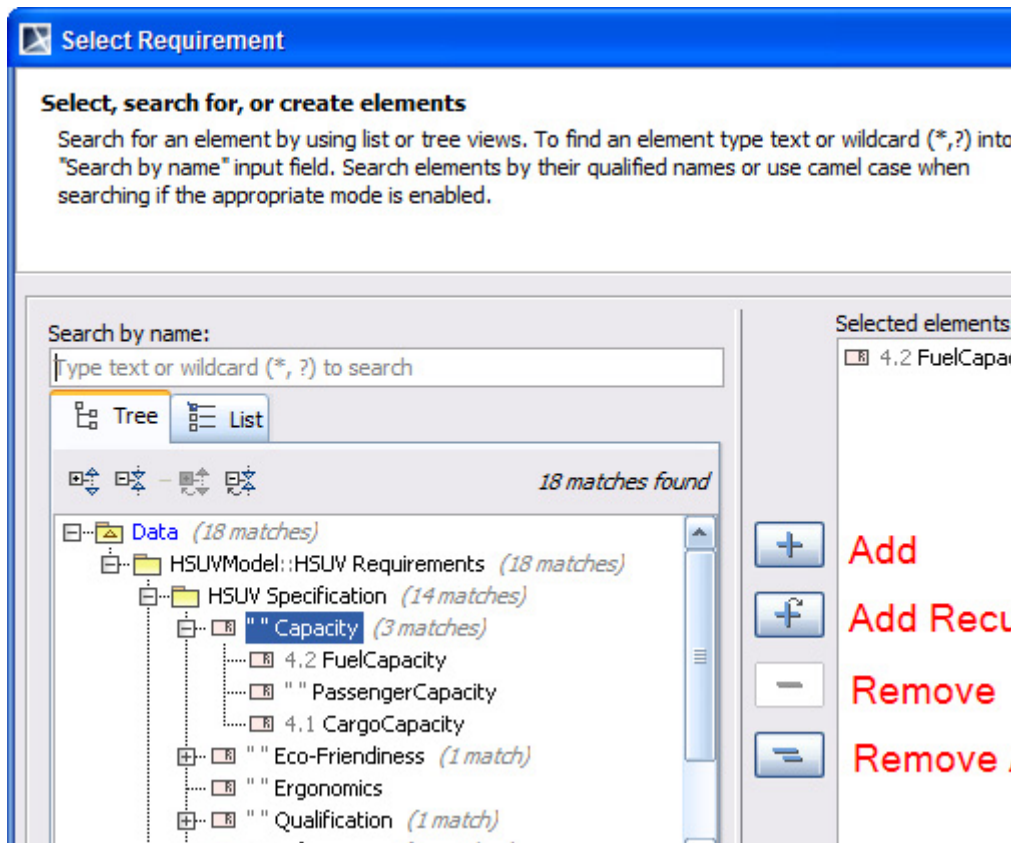

Figure 167 -- Select Requirement Dialog - Add Existing Requirements to Table
1. Click the **Add Existing** icon on the table toolbar or press **Ctrl + Insert** (Table 6). The **Select Requirement** dialog will open (Figure 167).
- Use the **Add** button in Figure 167 to add a requirement selected in the element tree to the **Selected elements:** pane.
- Use the **Add Recursively** button in Figure 167 to add all requirements listed under the requirement selected in the element tree and the selected requirement itself to the **Selected elements:** pane.
- Use the **Remove** button in Figure 167 to remove the selected requirement from the **Selected elements:** pane.
- Use the **Remove All** button in Figure 167 to remove all requirements from the **Selected elements:** pane.
3. In the **Select Requirement** dialog (Figure 167), click